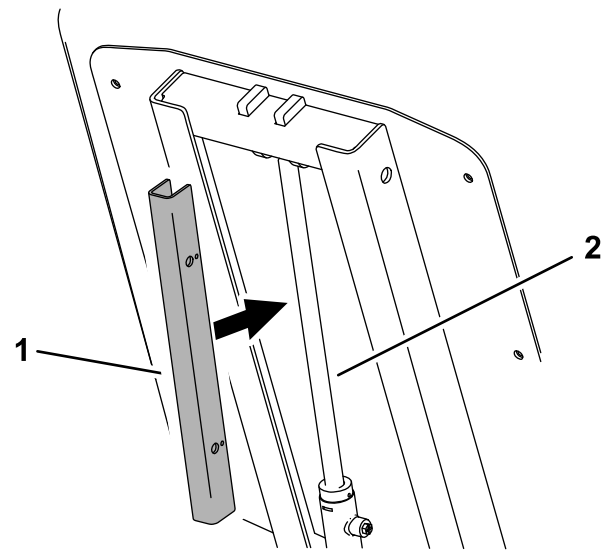

Figure 17
3. Slide the cylinder lock over the lift-cylinder rod and secure with the cotterless pins (Figure 17).